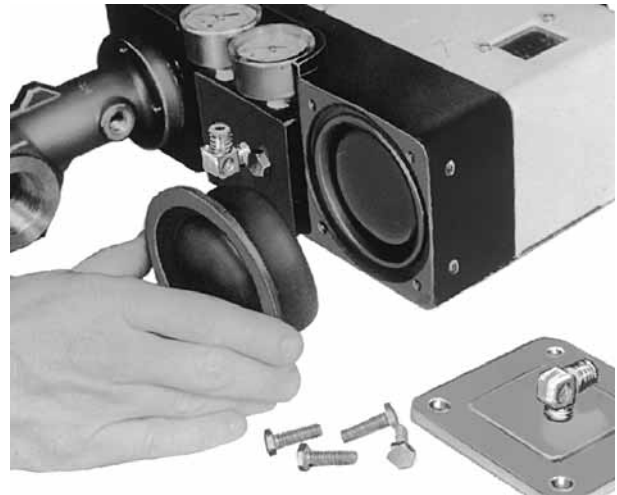

Figure 17 - Diaphragm replacement
5.1 ACTUATOR DIAPHRAGM REMOVAL (Figures 17, 24, 25, 26 and 27)
- A. Unscrew the two pressure connection nuts (138a) and pull tubing (140) out. Remove the four cap screws (139) and diaphragm cover (137). Remove the worn diaphragm. Form new diaphragm (136) and fit it on the piston as shown in figure 17. Fit the diaphragm roll into the bracket groove. Take care not to twist or bend the diaphragm during replacement. Refit diaphragm cover (137) with the four screws (139) and reconnect the tubing with the two